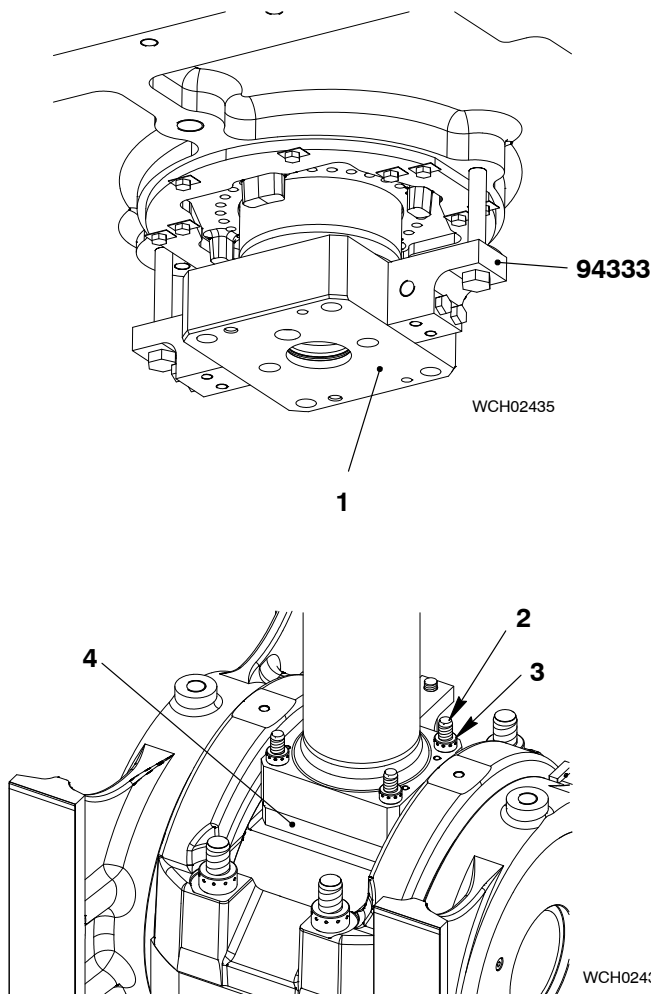

Fig. 11
- 1) Make sure that the piston rod foot (1, Fig. 11) is clean and has no damage.
- 2) Make sure that the compression shim (4) is clean and has no damage.
- 5) Operate the turning gear to move the crankshaft to TDC. Make sure that the crosshead touches the piston rod foot (1).
- 7) Operate the turning gear to lower the piston to BDC. Make sure that the piston rod foot (1) and the crosshead stay together.
- 8) Put the four round nuts (3) on the elastic studs (2).
- 9) Use the pre-tensioning jack (94315) to apply tension to the elastic studs (2), refer to 9304 4, paragraph 3.
- 10) Use the round bar to tighten the round nuts (3).